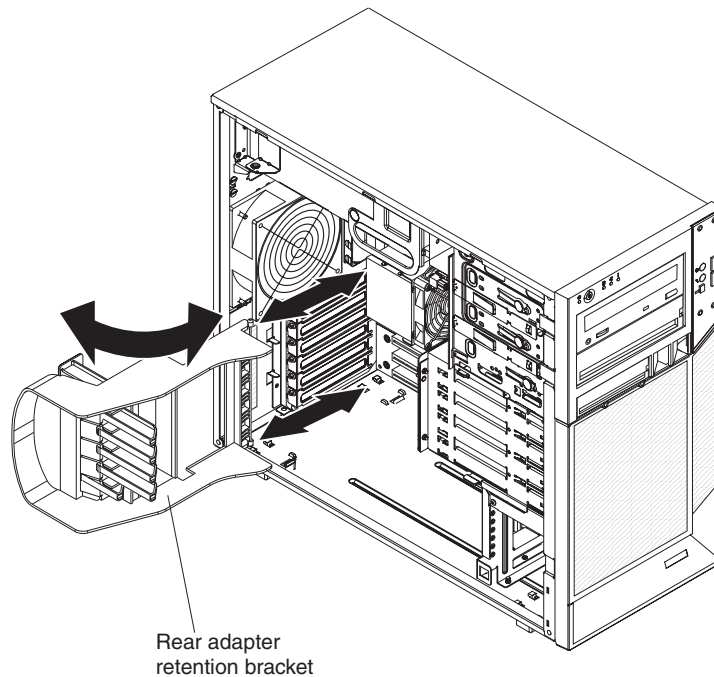

Figure 48. Installing the rear adapter-retention bracket
1. Engage the top and bottom release tabs of the rear adapter-retention bracket with the openings in the chassis, until the release tabs lock securely in place (see Figure 48).